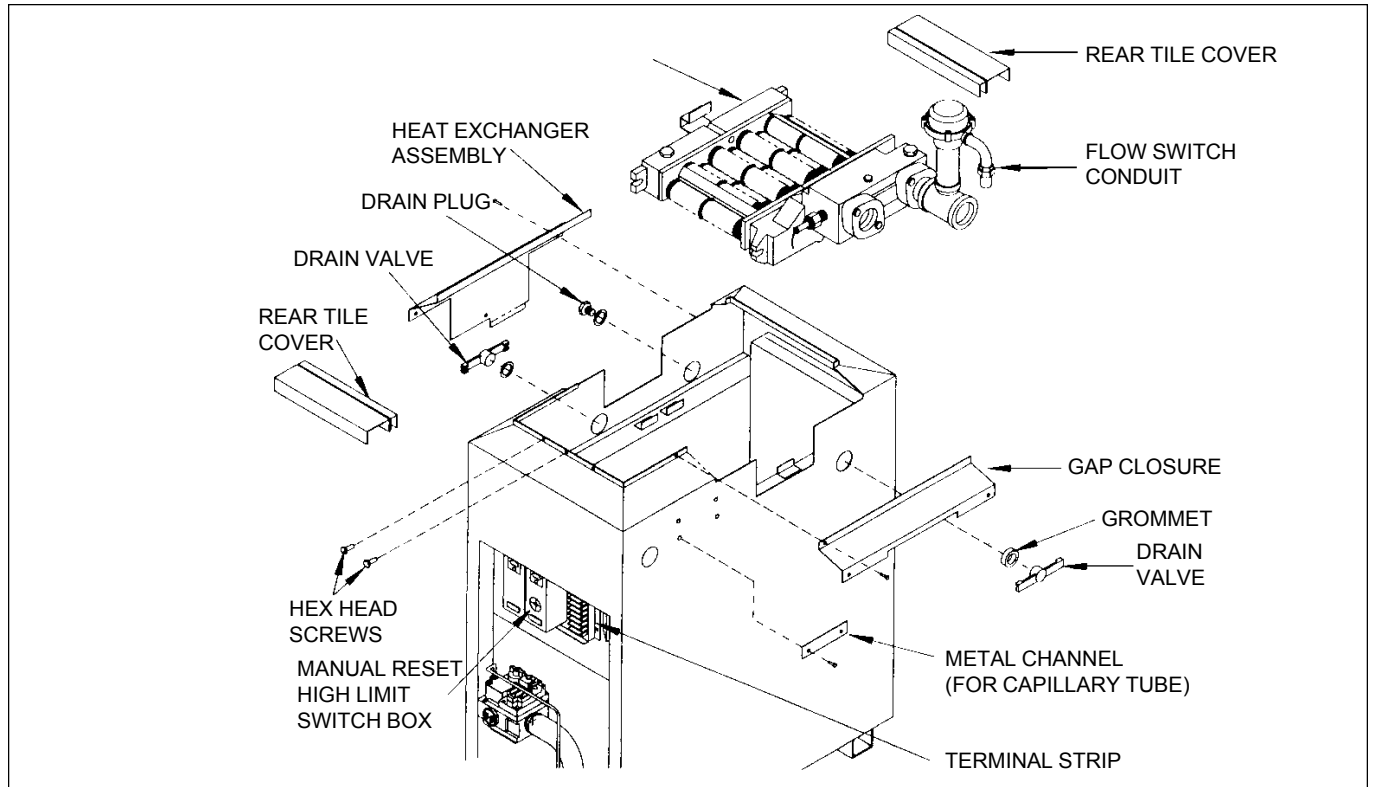

Figure 16. Heat Exchanger Removal.
3. If the unit is in the low-profile outdoor configuration, remove the hex-head screws (see Figure 16) and lift the top assembly straight up.
8. Remove the drain valve and plugs. There are two hex plugs, one on the left side, and one on the right side, near the rear of the jacket. The drain valve or plug is located on the left side near the front (see Figure 16).
17. Remove the front and rear tile covers (see Figure 16).